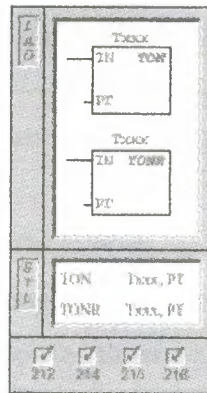

Figure 7.5
The On-Delay Timer and Retentive On-Delay Timer instruction time up the maximum value when enabled. When the current value (Txxx) is \geq to the Preset Time (PT), the timer bit turns on. The On-Delay timer is reset when disable, while the Retentive On-Delay timer stops timing when disable. Both timers stop timing when disabled. Both timers stop timing when they reach the maximum value. (Figure 7.5)